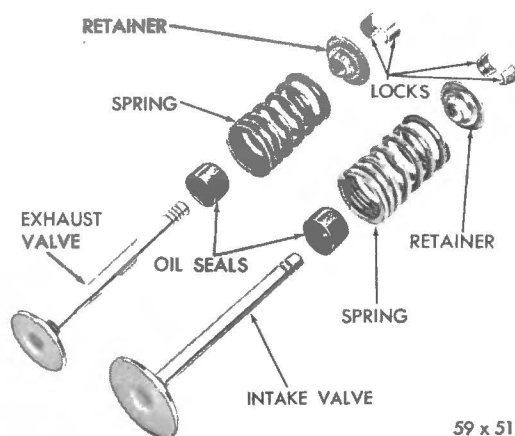

Fig. 9 Valve Assembly (Disassembled View)
(1) Coat the valve stems with lubricating oil and insert them in position in the cylinder head.
(2) Install new cup seals in the intake and exhaust valve stems and other valve guides, as shown in Figure 9 and 10 and install valve springs and retainers.
(3) Compress the valve springs with Tool C-3422A. Install locks and release tool.